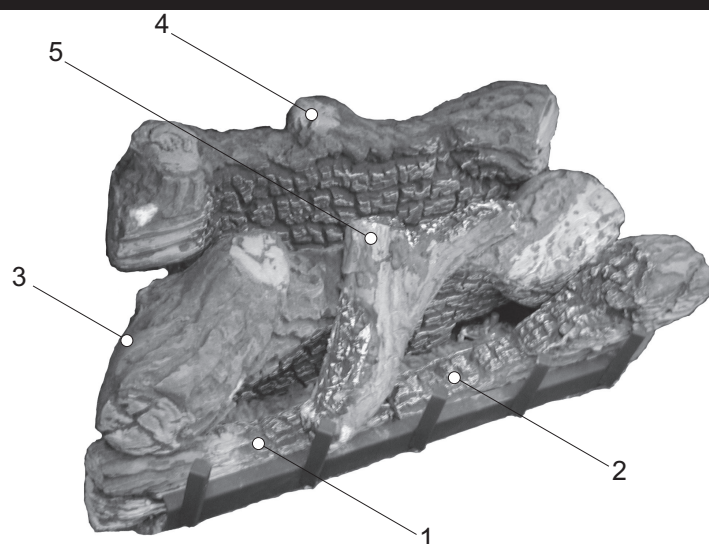
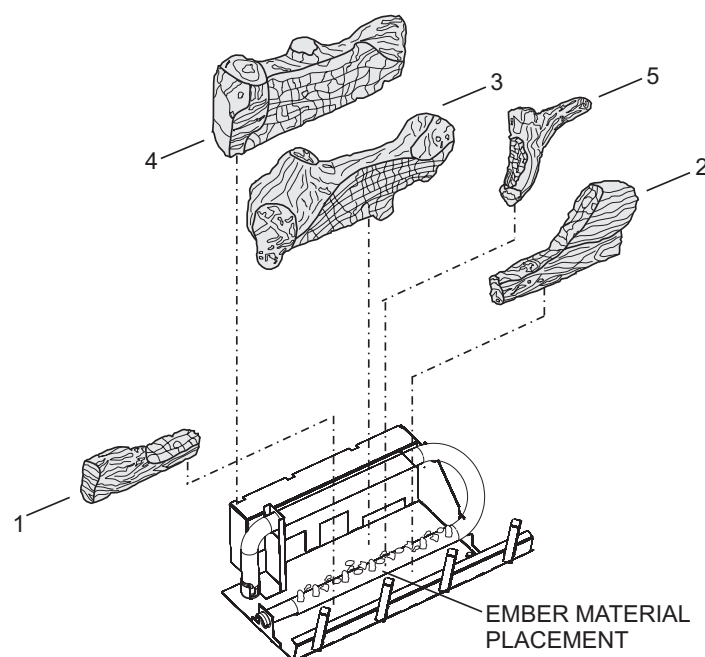

Figure 16
Figure 17
The positioning of the logs is critical to the safe and clean operation of this fireplace. Sooting and other problems may result if the logs are not properly and firmly positioned in the fireplace. Please refer to **Figure 16** and **Figure 17** and corresponding WARNING when completing following log placement instructions.
Attention: Do not use Figure 16 or Figure 17 to order logs. Refer to parts list on page 28 and parts view on page 29 to order logs and/or ember material for your appropriate fireplace model.
6. After all logs are positioned properly, apply Rockwool ember material to the front burner port area. To apply, carefully separate the ember material into small amounts no larger than "dime size" pieces. Fluffed up pieces one layer thick on top of the burner generally works best, and will provide the best ember glow. Do not place ember material more than one layer thick. No more than (1) small packet of ember material (part no. 15999) evenly placed on the burner, is recommended on BVD34 and BVD36 models. Using additional ember material will decrease the amount of ember glow effect. Extra ember material should be saved for future ember applications as necessary. See Figure 17.